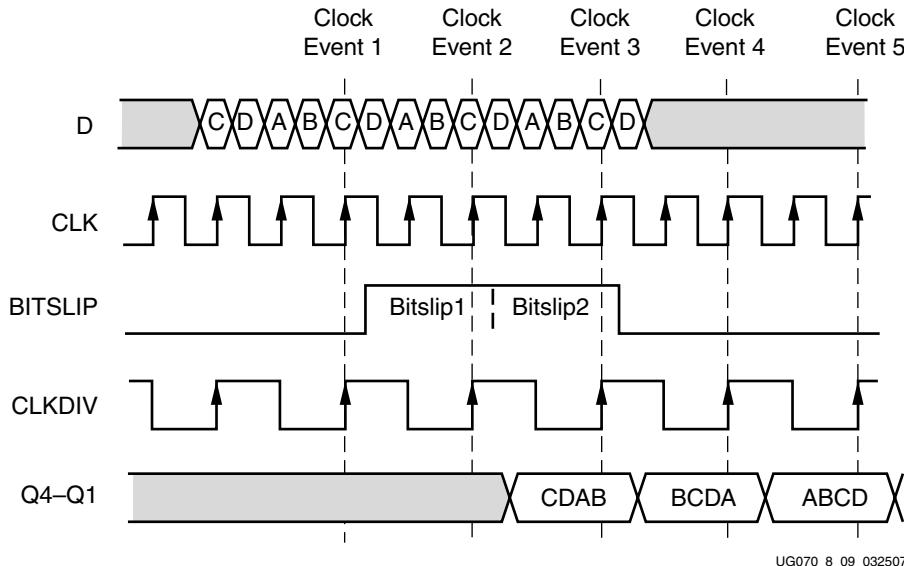

Figure 8-12: Bitslip Timing Diagram
This section discusses the timing models associated with the Bitslip controller in a 1:4 DDR configuration. Data (D) is a repeating, 4-bit training pattern ABCD. ABCD could appear at the parallel outputs Q1–Q4 of the ISERDES in four possible ways: ABCD, BCDA, CDAB, and DABC. Only one of these four alignments of the parallel word makes sense to the user's downstream logic that reads the data from the Q1–Q4 outputs of the ISERDES. In this case, we assume that ABCD is the word alignment that makes sense. Asserting Bitslip allows the user to see all possible configurations of ABCD and then choose the expected alignment (ABCD). Figure 8-12 shows the timing of two Bitslip operations and the corresponding re-alignments of the ISERDES parallel outputs Q1–Q4.